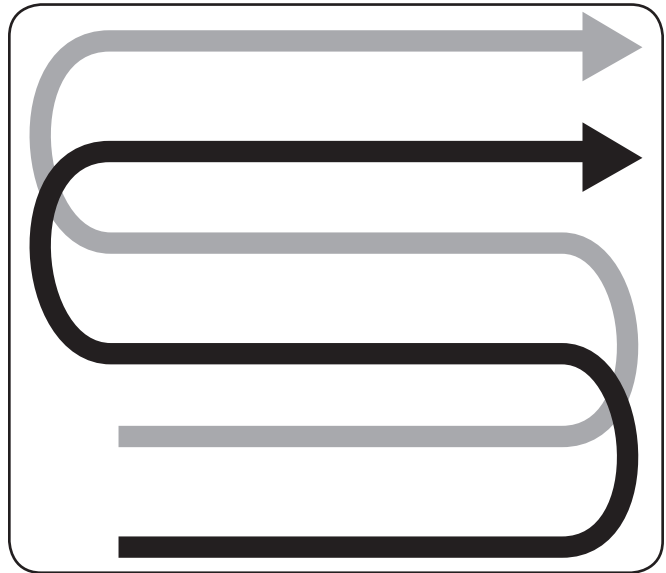

**Figure 5-4**
- When preparing a seedbed, go over the same path twice in the first row, then overlap one-half the tiller width on the rest of the passes. See Figure 5-4.